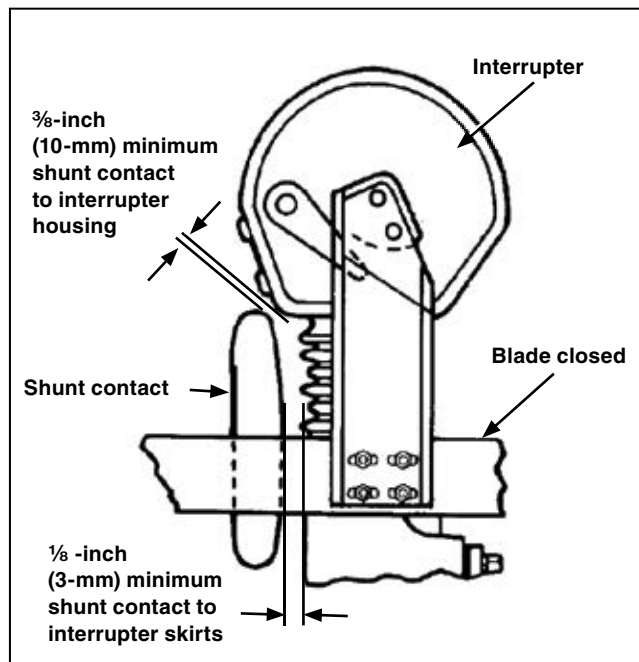

Figure 38. The blade assembly in the fully Closed position.
- (f) With the switch in the fully **Closed** position, verify the minimum clearances between the blade shunt contact and the interrupter, measured to the interrupter housing as well as the interrupter skirts. See Figure 38.